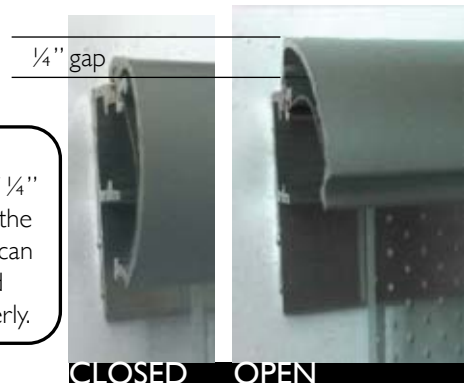

Figure 2
1. Cut the moulding to the proper size and attach it to the wall (find studs on the wall for this). Insure that the screws used do not protrude but are as flat as possible. **(See figure 1)** **NOTE:** If using a snap frame make sure to allow a minimum 1/4 inch gap above the moulding so the moulding can open and close properly. **(See figure 2).**